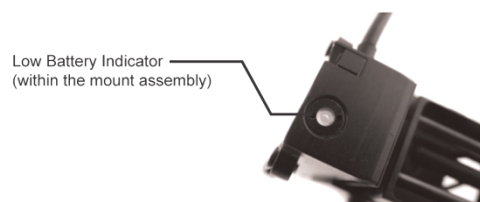

Figure 2-4. Low Battery Indicator
**B. Low Battery Indicator Check:** At the base of the NVAG mount is a red light-emitting diode (LED) that comes on or blinks at a steady rate when battery voltage is low (see figure 2-4). To make sure this indicator works, perform the following check.